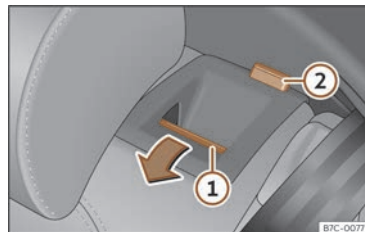

Fig. 88 Rear seat: folding down the backrest.
- Press the unlock button >>> Fig. 88 ① forwards and at the same time fold the backrest down. The rear seat backrest is not engaged when the red marking of the button ② is visible.